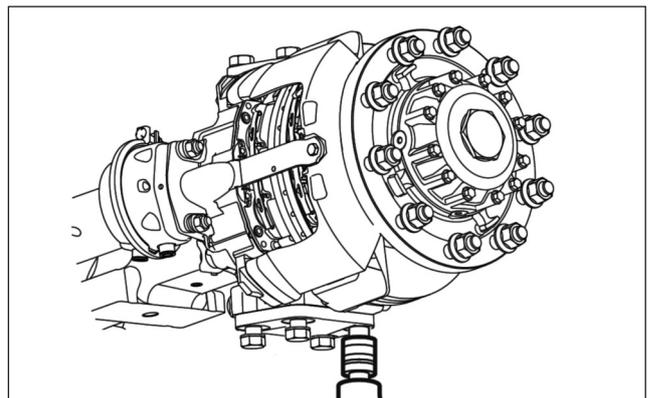

Fig. 4.5
13. Remove the four M20 x 2.5 (metric system) capscrews. Remove the lower Tie Rod Arms cap. - Fig. 4.5